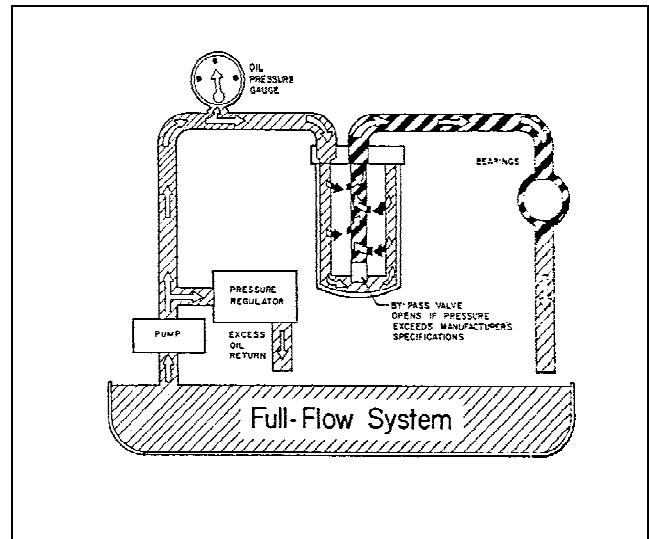

Figure 3.A Full-Flow Filter System.
- * In a full-flow system, all the oil passes through the filter before being sent on to lubricate the bearings and moving parts (Figure 3). This means that the full-flow filter cannot possibly remove contaminants as small as those removed with a by-pass filter.
A by-pass filter system (Figure 2) continuously filters a portion of the oil while the engine is operating (Figure 3). This filtered oil is returned to the crank case where the by-pass filter prefilters the oil to take much of the load off the full-flow filter. The oil then flows through the by-pass system much more slowly while trapping contaminants much smaller than those trapped by a full flow system (Figure 3).